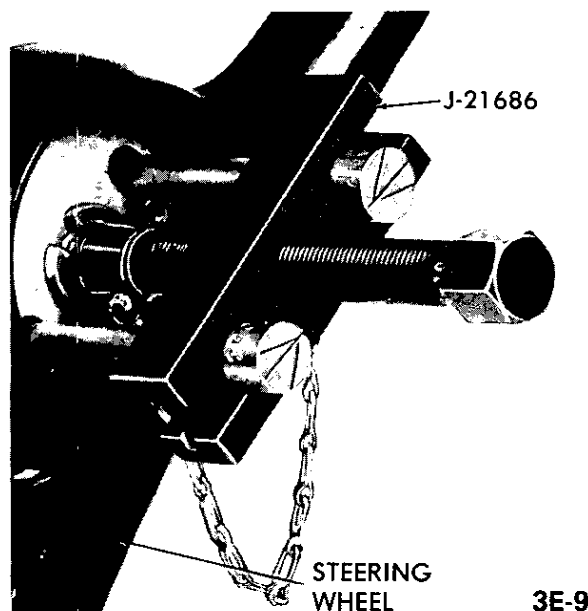

Figure 3E-9 Removing Steering Wheel
4. Install steering wheel remover J-21686 as shown in Figure 3E-9 and pull off steering wheel.